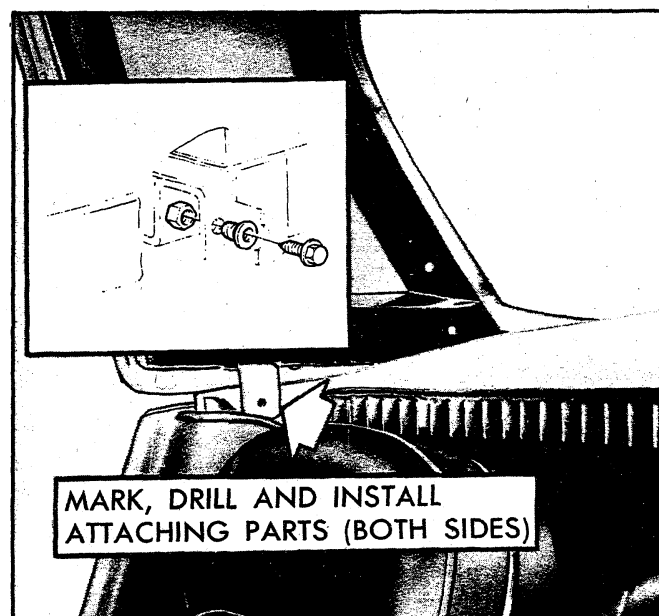

Fig. 114—Hardtop Attachments at Lock Pillar Area
8. Mark roof panel attachment hole location at each lock pillar area (fig. 114).